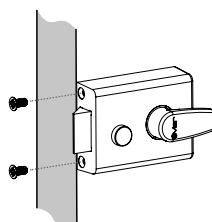

Fig. 6
7. Push the lock body firmly onto the mounting plate so that it clips firmly over the plate – slide forward slightly to lock it into position. Using the two machine screws secure the lock body to the mounting plate (Fig.6).